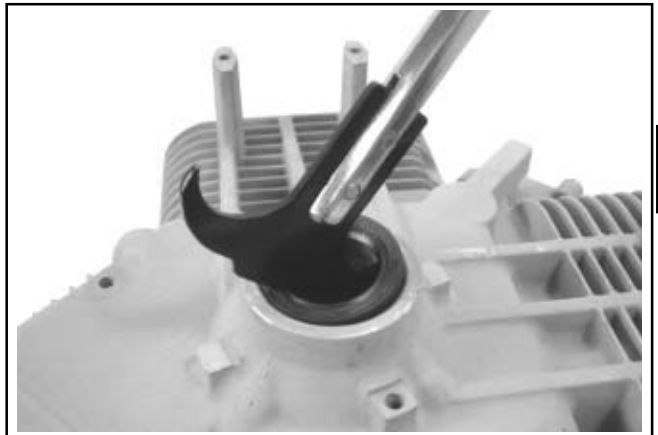

Figure 9-57. Removing Oil Seal.
1. Remove the oil seal from the crankcase. See Figure 9-57.